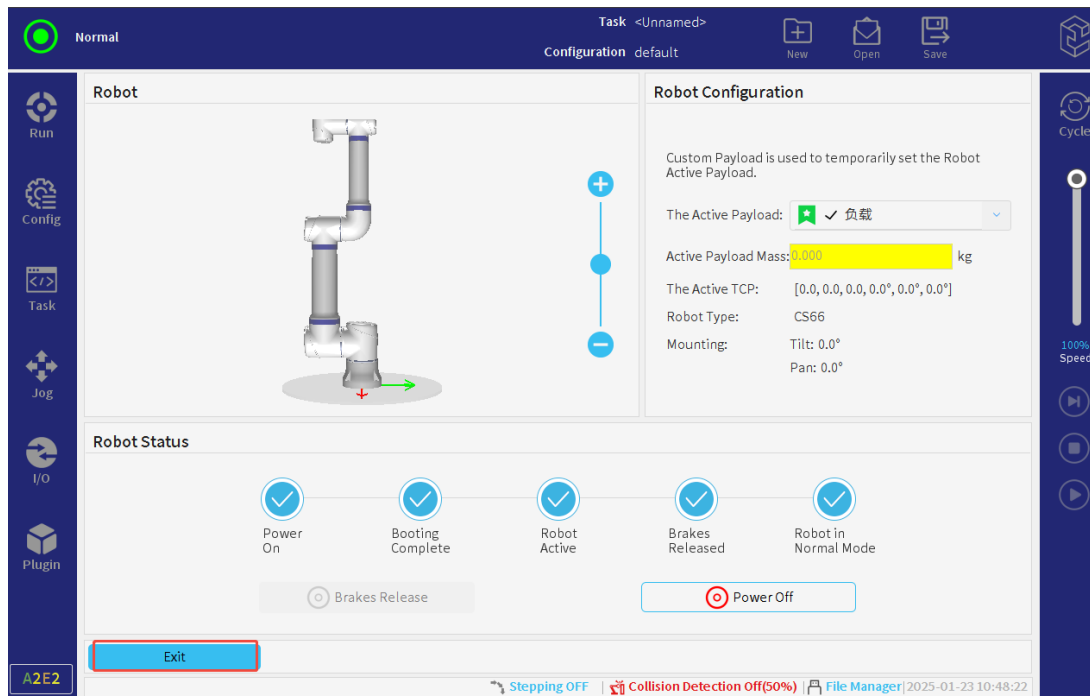

Figure 3-3 : Exit the page
4. Click "Exit" at the bottom left to exit the current page, as shown in **Figure 3-3**.